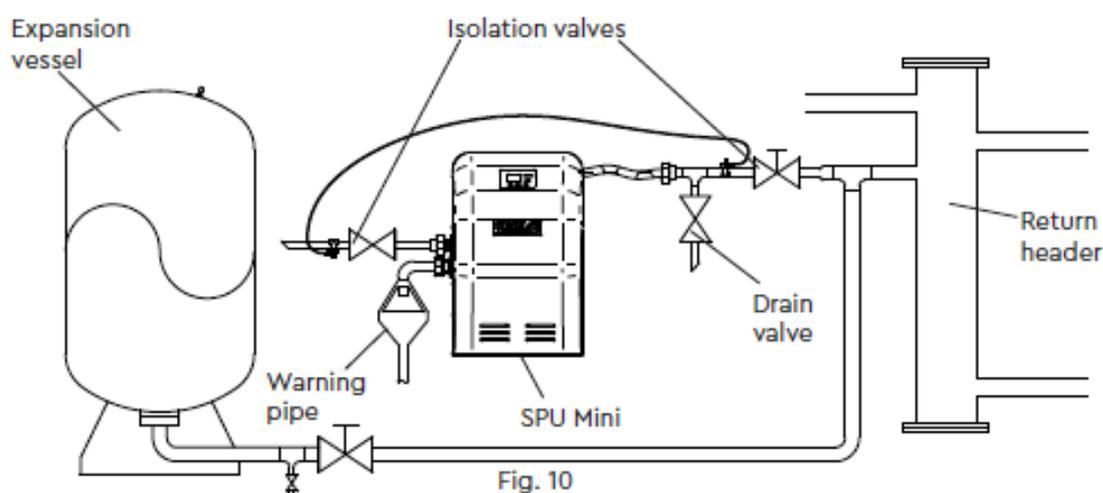

Fig. 10
The isolation valve on the outlet should be of a lockshield type. See Fig. 10.
3. A drain valve must be fitted on the outlet of the Flowpress Mini before the isolation valve. See Fig. 10.
9. The Flowpress Mini should be connected to the system return header along with the expansion vessels as specified in BS 7074. See Fig. 10.